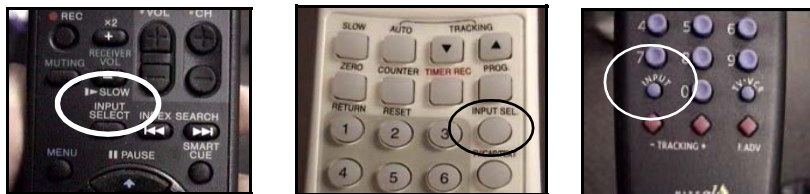

Figure 4
2. Change the video input for your monitor accordingly (see Figure 4).
2. Change the video input for your recorder accordingly (see Figure 4).